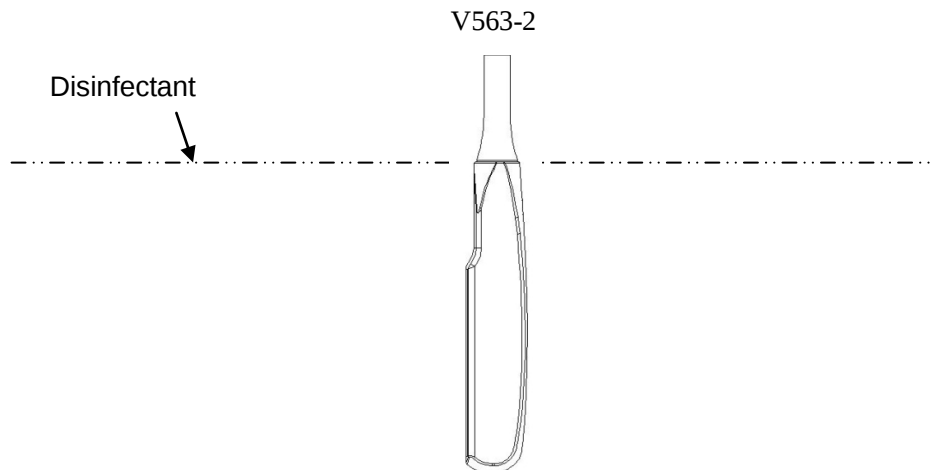

Figure 11-1 Depth of the Transducer Immersed into Disinfectant
4. Place the cleaned and dried transducer in contact with the disinfectant (refers to figure 11-1
7. Patient contact area should be immersed into the solution while using the immersion method, but should not exceed the depth shown in figure 11-1.